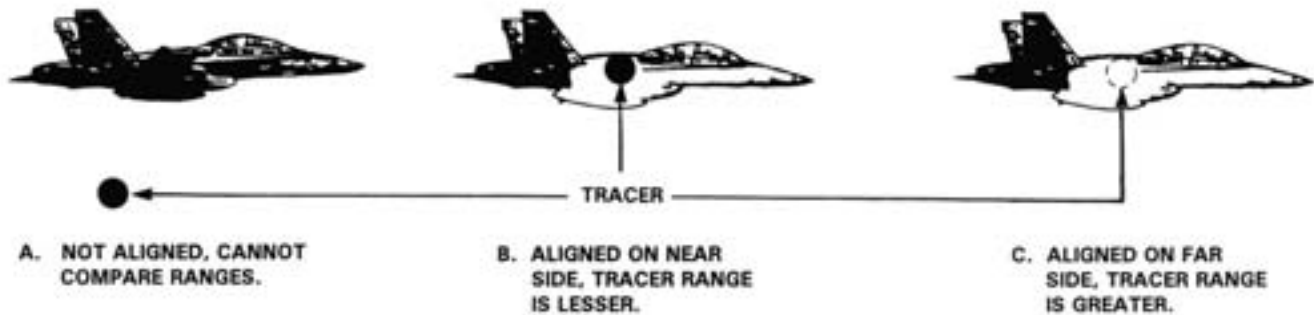

Figure 6-61. Superimposition.
(2) **Localized vision.** In figure 6-61, the tracer is shown as a single spot in the sky, moving directly away from the gunner's eye. In actual practice, the tracer does not appear as a fixed spot, but rather as a curved path (see figure 6-62). This apparent curvature of the tracer path is